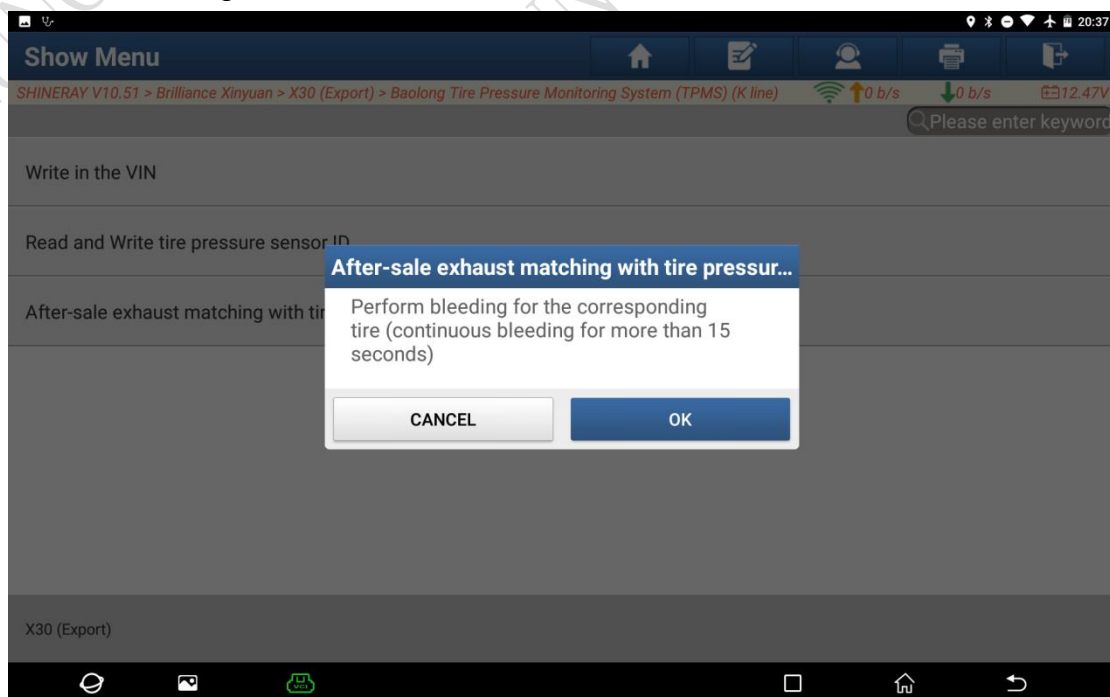

Figure 13
13. Follow the prompts to bleed the RL wheel and click [OK] to continue, as shown in Figure 13.